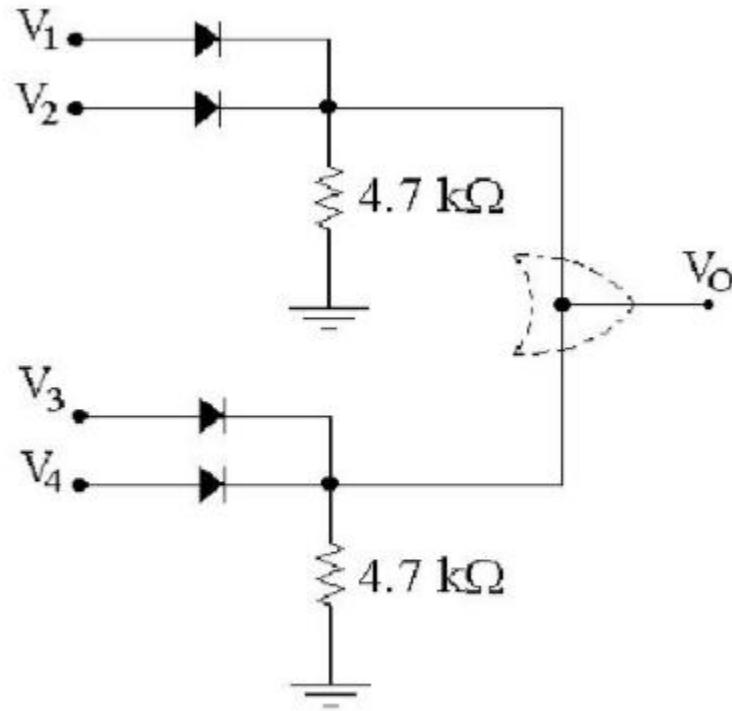

Figure 4 : Wired- Logic OR Gate.
1. Construct the circuit as show in Figure 4.
1. Verify theoretically that circuit of Figure 4 is in fact a 4-input OR gate.